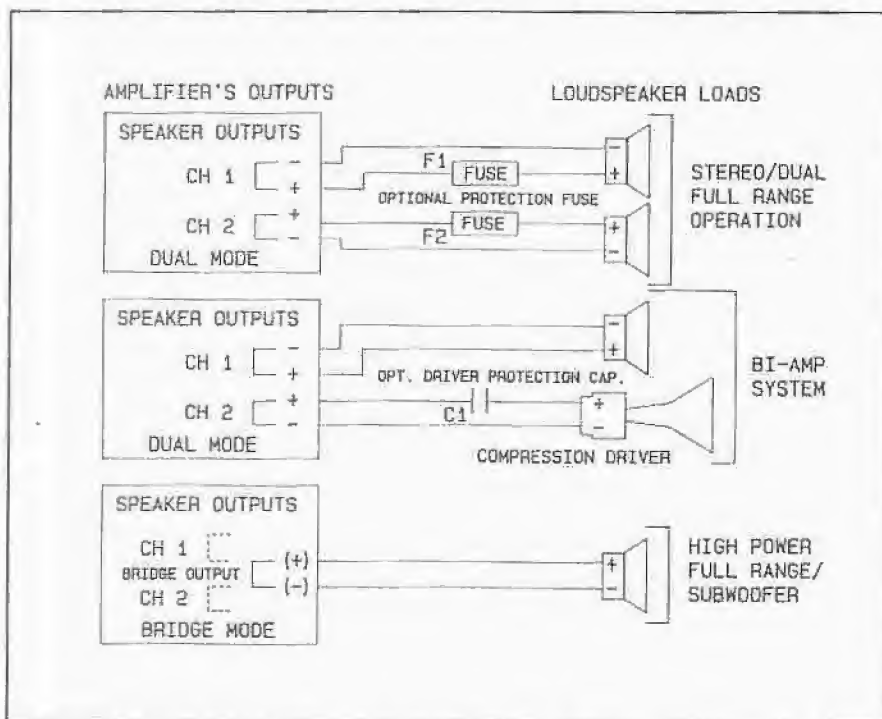

Figure 4 Typical Output Connections
Output connections are made to the four terminal barrier strip connector located on the rear of the unit. Refer to Figure 4 for typical output connections.
Use 32 volt fuses if possible; they typically have the lowest internal resistance which will help minimize deterioration of the damping factor at the load. Refer to the example in Figure 4.
Compression drivers, used for mid to high frequency sound reproduction, are much more susceptible to damage from low frequencies than large cone loudspeakers. Even though an electronic crossover may be employed, problems may arise in the cables between the crossover and the power amplifier, or from misadjustment of the crossover. Either of these situations could apply low frequency signals or hum to the driver and cause damage. To prevent a potential mishap, Altec Lansing recommends using a capacitor between the amplifier and the compression driver to suppress low frequencies and possible DC. Refer to the example in Figure 4.
3. Verify that the output connections are properly made. Refer to Figure 4.